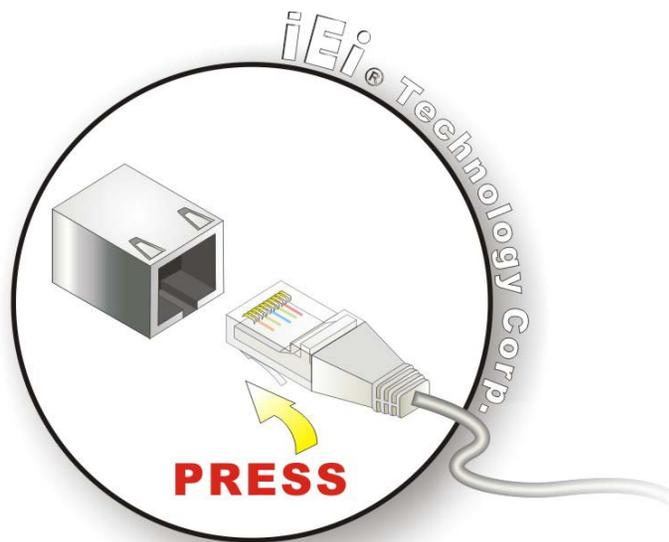

Figure 4-16: LAN Connection
Step 2: **Align the connectors.** Align the RJ-45 connector on the LAN cable with one of the RJ-45 connectors on the IMB-H610. See **Figure 4-16**.